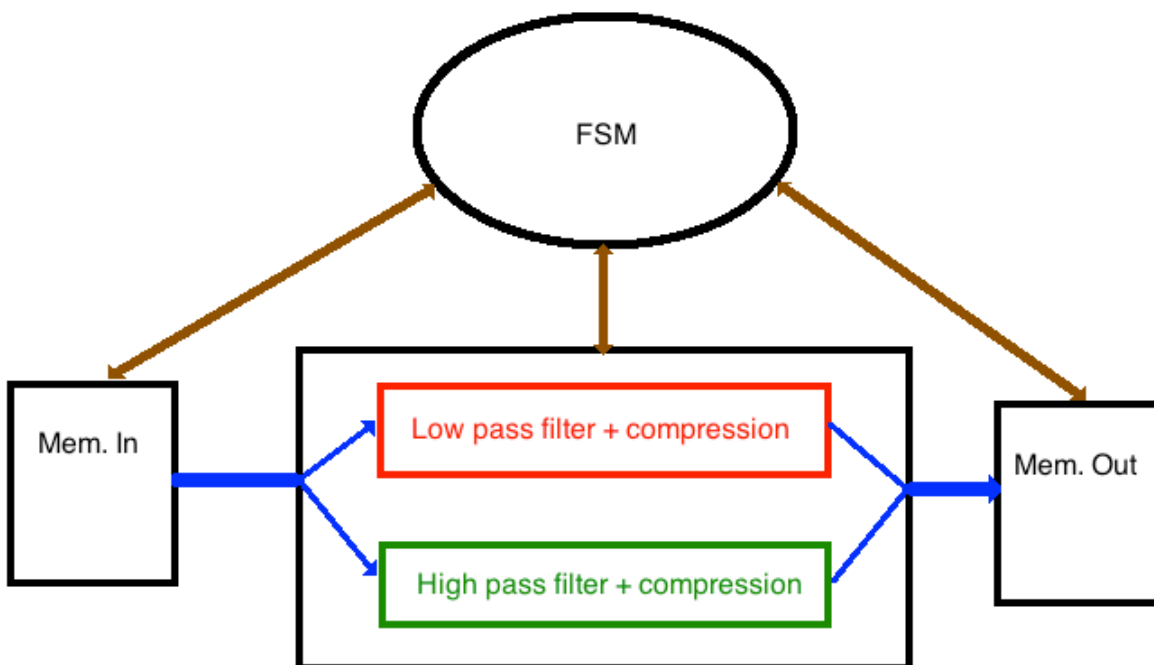

Figure 20. VHDL schematic.
particular attributes. In Figure 20 we can see a schematic of our VHDL implementation.
In Figure 20 we can see all the elements that has been created for a correct implementation of one stage filtering. We can see the Mem. In, where all elements are stored at the beginning, Mem. Out, where the values obtained after filter the signal are stored, the FSM that will control the data flow depending on the inputs that it receives and a central corpse where are implemented both filters. It is important to notice that the blue threats work in only one direction (Mem. In to filters, filters to Mem. Out), meanwhile the brown threats work in both ways. This is because we need to send data form each element to FSM so different signals will be activated to continue with the logical process of the implementation.
- Userlogic: This is the final implementation of the whole system that will perform the DWT in the FPGA, with all the connections between the different modules as the Figure 20 shows. This module will contains two memories: